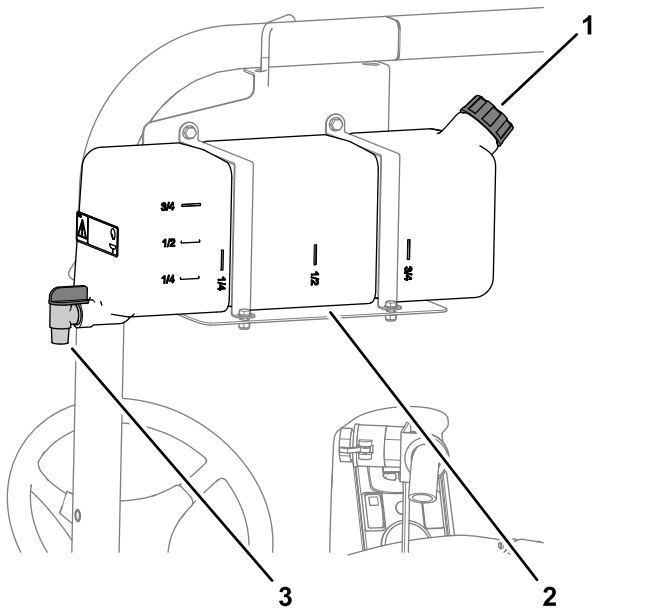

Figure 18
- To fill the tank, unscrew the cap at the top of the tank, fill the tank with fresh water, and install the cap (Figure 18).
- To open the fresh-water tank spigot, turn the lever on the spigot (Figure 18).